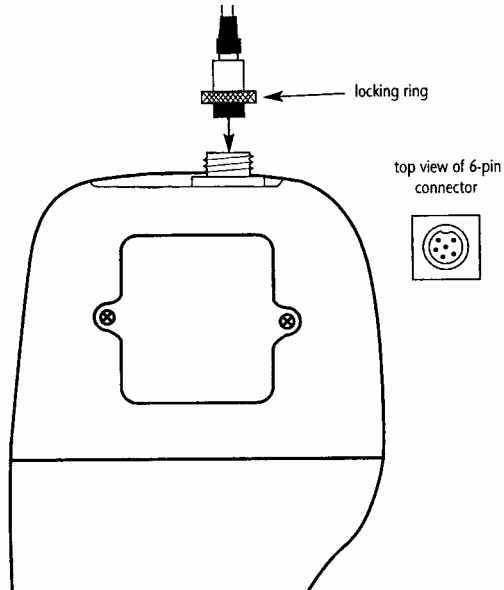

Figure 4: Connect DO Probe
1. Line up the notch and 6 pins on the meter’s connector with the holes in the probe’s connector. Push down and turn the locking ring to lock into place. See Figure 4 below.